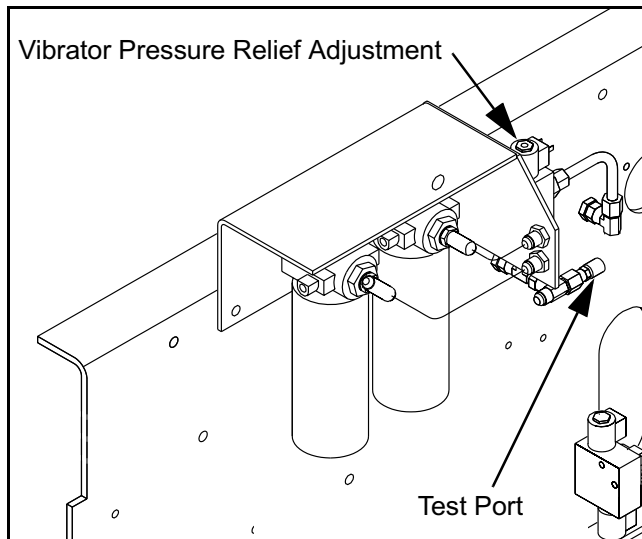

Figure 5 - 12 Vibrator Pressure Test Port
- 2) Install a 2500 PSI pressure gauge to the test port on the vibrator solenoid valve. (Figure 5 - 12)